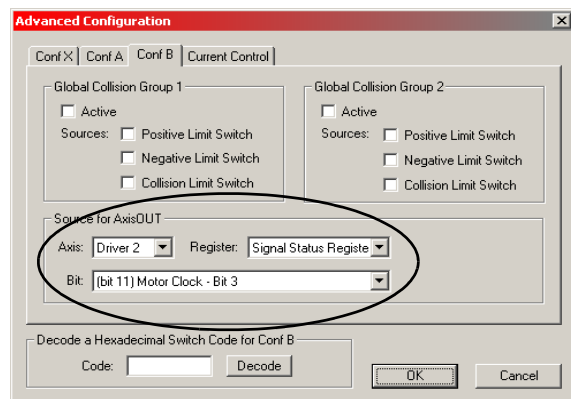

Figure 4.18 - Motorized Drives section – Theta – Advanced Configuration
4. Answer **Yes** to the confirmation message and click **Additional Settings**. The following box appears (see Figure 4.18). The “Axis” must be set to **Driver 2**. Set “Register” to **Signal Status Register** and “Bit” to **(bit 11) Motor Clock - Bit 3**.